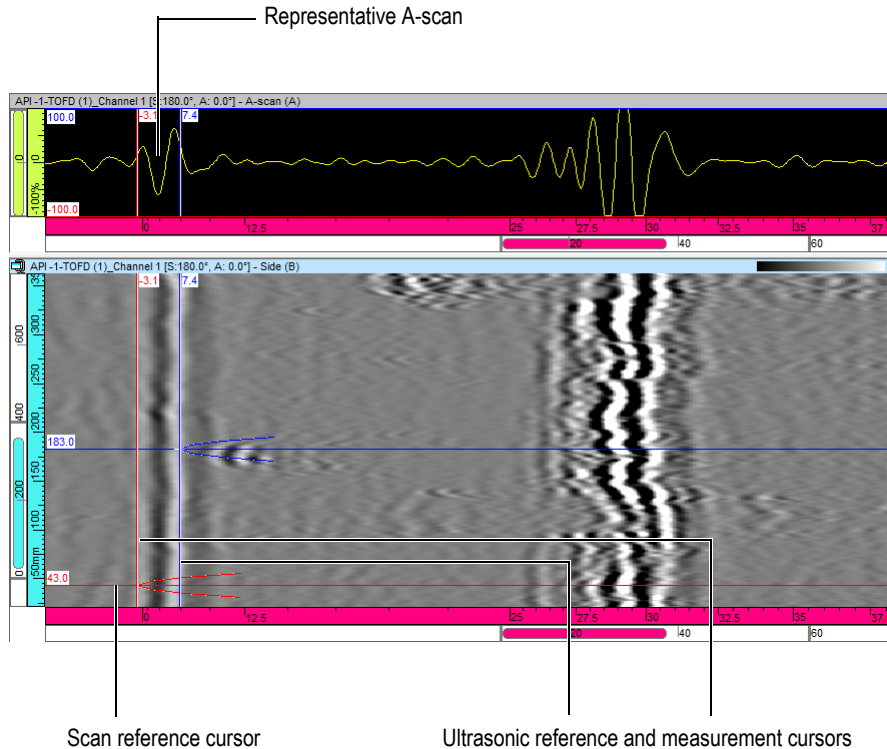

Figure 7-18 Selection of a reference A-scan
2. Select the **Side (B)** view on which you want the lateral wave synchronization to be applied.
3. In the **Side (B)** view, position the reference (red) cursor to select a reference A-scan in an unflawed zone (see Figure 7-18 on page 357).
4. In the **Side (B)** view, position the ultrasonic reference cursor and the ultrasonic measurement (blue) cursor on either side of the lateral wave signal (see Figure 7-18 on page 357). Appropriate setting of the cursors determines the result of the operation.